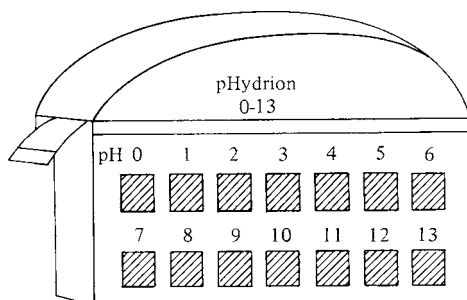

Figure 18.1
1. Add 1 drop of 0.1 M HCl to the first depression of a spot plate. Dip a 2-cm-long universal pH paper into the solution. Remove the excess liquid from the paper by touching the plate. Compare the color of the paper to the color chart provided (Figure 18.1). Record the pH on your Report Sheet (1).
2. Repeat the same procedure with 0.1 M acetic acid, 0.1 M sodium acetate, 0.1 M carbonic acid (or club soda or seltzer), 0.1 M sodium bicarbonate, 0.1 M ammonia, and 0.1 M NaOH. For each solution, use a different depression of the spot plate and a new piece of pH paper. Record your results on the Report Sheet (1).